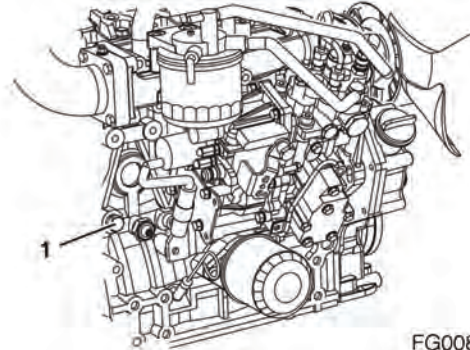

Figure 306
- On models not equipped with an oil cooler, remove the coolant drain plug (1, Figure 306) from the engine block.